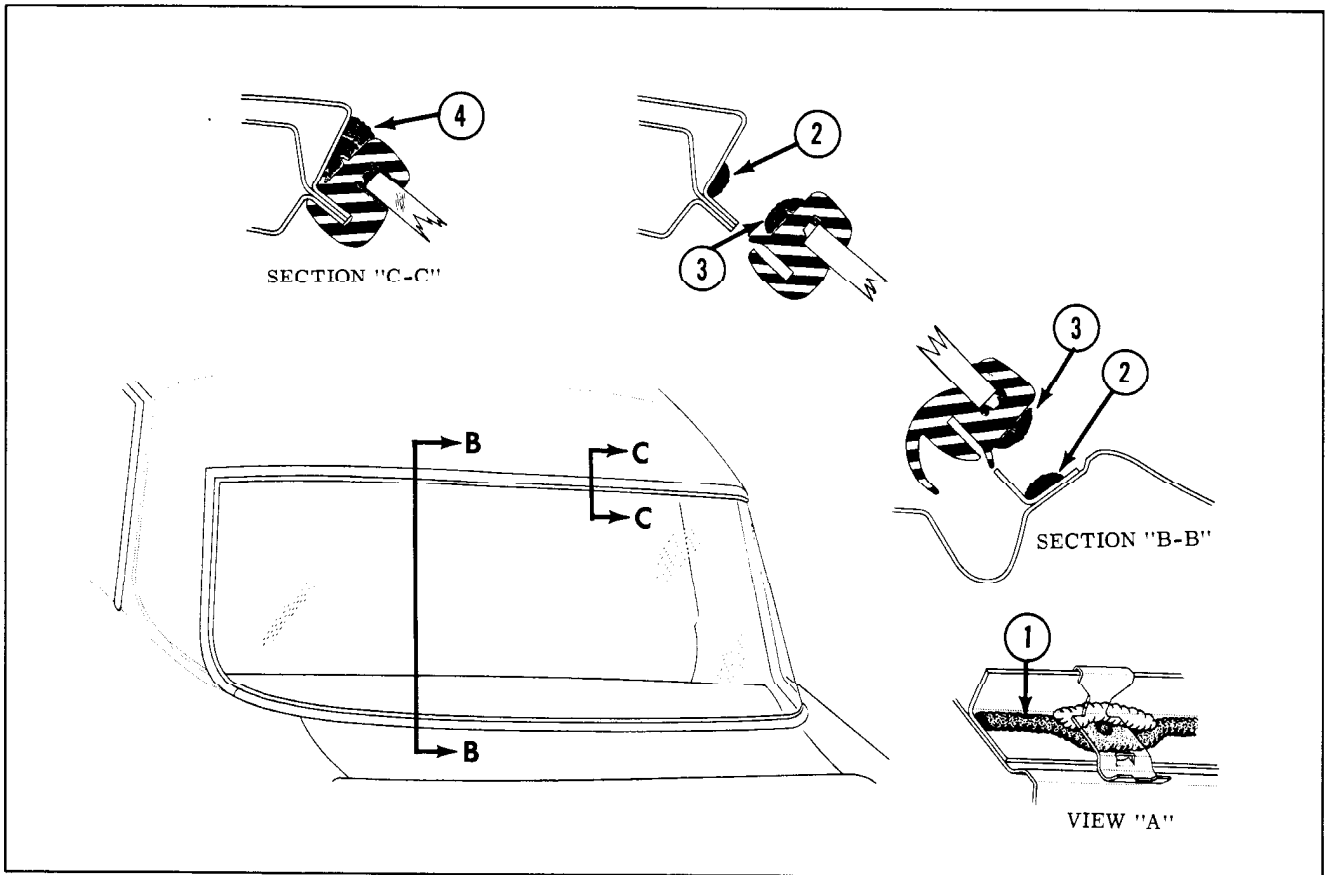

Fig. 17-84 Back Window Sealing (3239 and 3539)
2. Check installation of reveal molding clips at pinchweld and retaining flanges and replace clips, where necessary. If replacing clips, apply medium-bodied sealer to opening rabbet, prior to installing clips. ("1", View "A", Fig. 17-84)
3. Apply a continuous ribbon of medium-bodied sealer (approximately 1/2" wide by 1/4" thick) on wall of rabbet completely around opening. ("2", Section "B-B", Fig. 17-84)
5. Apply a continuous ribbon of medium-bodied sealer (approximately 1/2" wide by 1/4" thick), completely around base of rubber channel. ("3", Section "B-B", Fig. 17-84)
8. Using a pressure type applicator, apply sufficient medium-bodied sealer to completely fill the wedge shaped opening between rubber channel and body across top of channel. ("4", Section "C-C", Fig. 17-84)